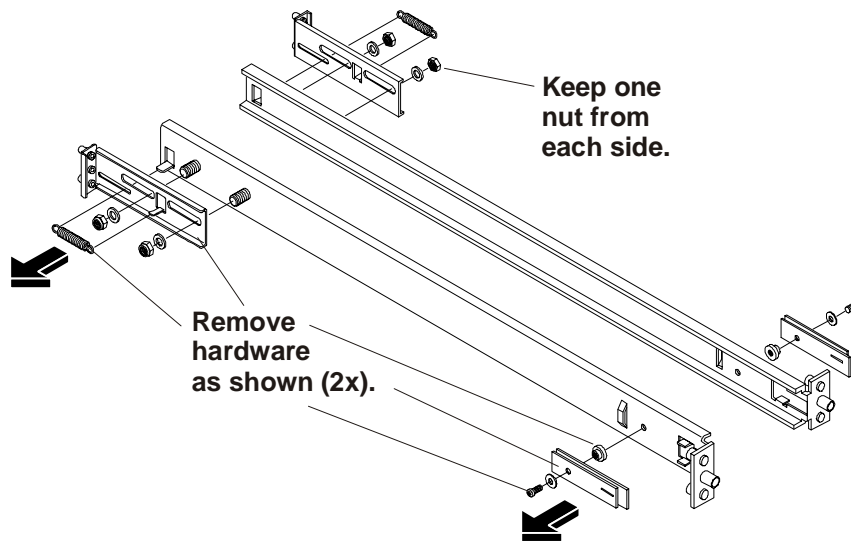

Figure 13-2. Removing Spring Assembly Hardware
The outer-rail assemblies are shipped with spring assemblies used on the newer HP System/E or System/U racks, but not used on the older HP System racks. The spring assemblies (coiled wire and flat spring) must be removed, before mounting the outer rails. The coiled spring assemblies on the outer-rails are compressed for shipping and held in place with two 10-mm nuts. These nuts must be removed along with the coiled spring to remove the rear spring assemblies, but two of the nuts must be kept to secure the rails to the rear columns of the rack. See Figure 13-2.
1. Turn both nuts on each rail counterclockwise (CCW) to release the rear spring assembly and remove the nuts. See Figure 13-2.
2. Remove the coiled wire spring at both ends (outer rail and sliding mechanism). See Figure 13-2.